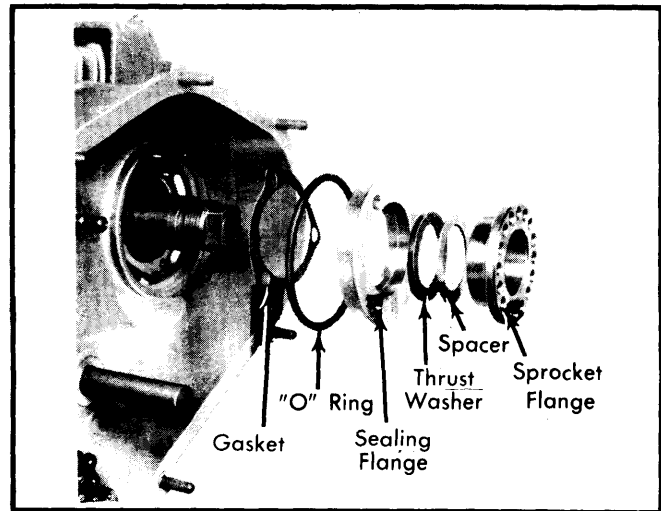

Fig. 3 Assembling Components to Install Camshaft Sprocket Flange and Sprocket
5) Install gasket, "O" ring, sealing flange, thrust plate, spacer, Woodruff key and camshaft sprocket flange as shown in Fig. 3. No provision is made to adjust camshaft end play, if sealing flange is worn, replace it.
3) Unscrew nuts attaching camshaft sprocket with suitable tools (P 202 & P 203). Remove dowel pin from camshaft sprocket with tool (P 212). Pull sprocket and sprocket flange from camshaft. Remove 3 attaching screws and sealing flange with "O" ring, and withdraw camshaft rearward. See Fig. 3.